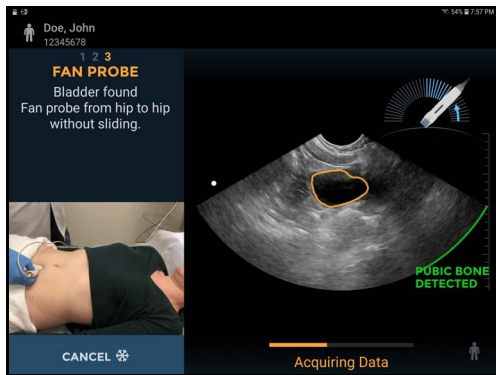

FIGURE 19. Acquire data
- When the bladder has been found, an orange outline will appear around the bladder. The pubic bone indicator will appear as a green curved line (FIGURE 19. Acquire data).